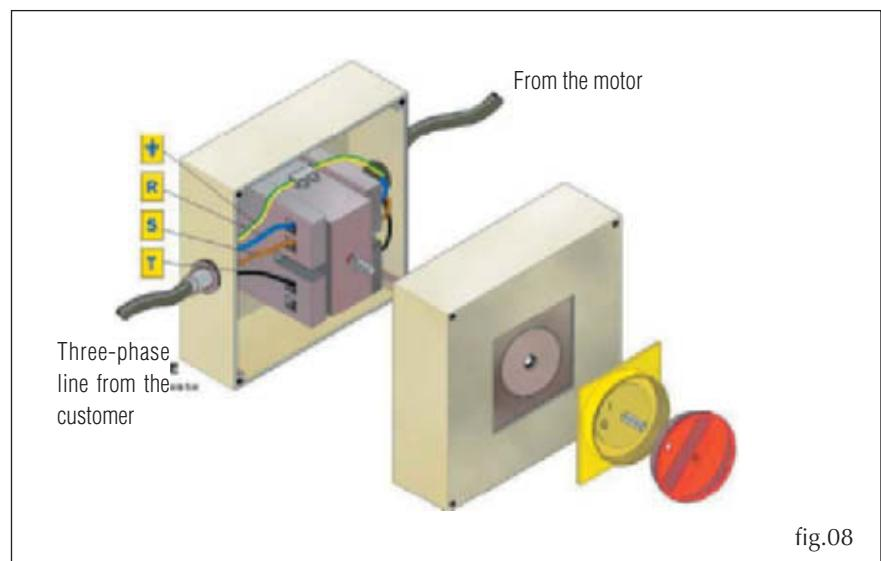

fig.08
**N.B. Always check however the type of connection to be made in accordance with the schematic shown by the manufacturer of the motor on the rating plate and inside the terminal box. An electrical junction box can be provided on request in a position that is easy to access for the versions from 050 to 750, while one is always provided for the last three sizes from 850 to 1100 (Fig. 08).**